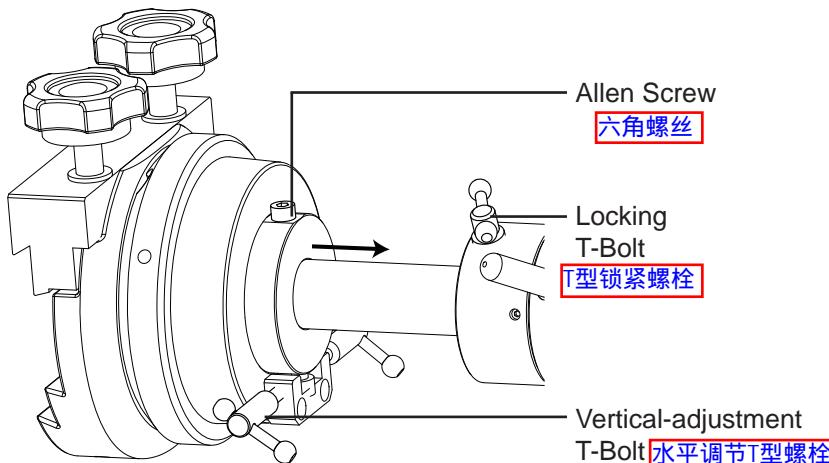

Fig. 2.5a
- Loosen the Allen screw on the saddle's silver ring and push the saddle onto the counterweight rod, as shown in Fig. 2.5a. Align the Allen screw to the flat surface on the counterweight rod.
- 2. 松开底座上银色圆环上的六角螺丝并把底座推到配重杆上，如图2.5a所示。把六角螺丝与配重杆上的平整面对齐。**